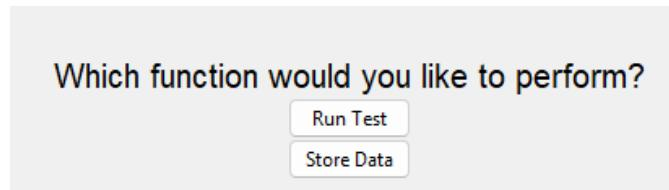

Figure 3.7 - Run Test or Store Data Screen (TS)
2: The screen in figure 3.7 will be displayed. Click “Run Test.” (TS)